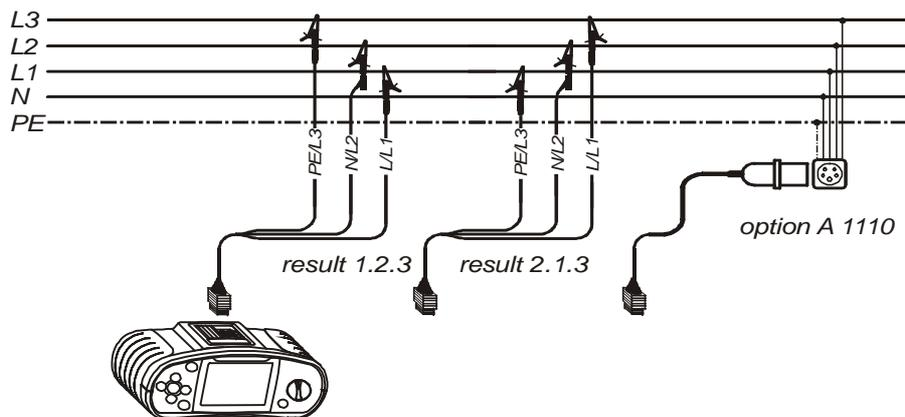

Figure 5.35: Connection of universal test cable and optional three-phase cable
**Step 2** Follow the connection diagram shown in the figure 5.35 to perform fault loop impedance measurement.